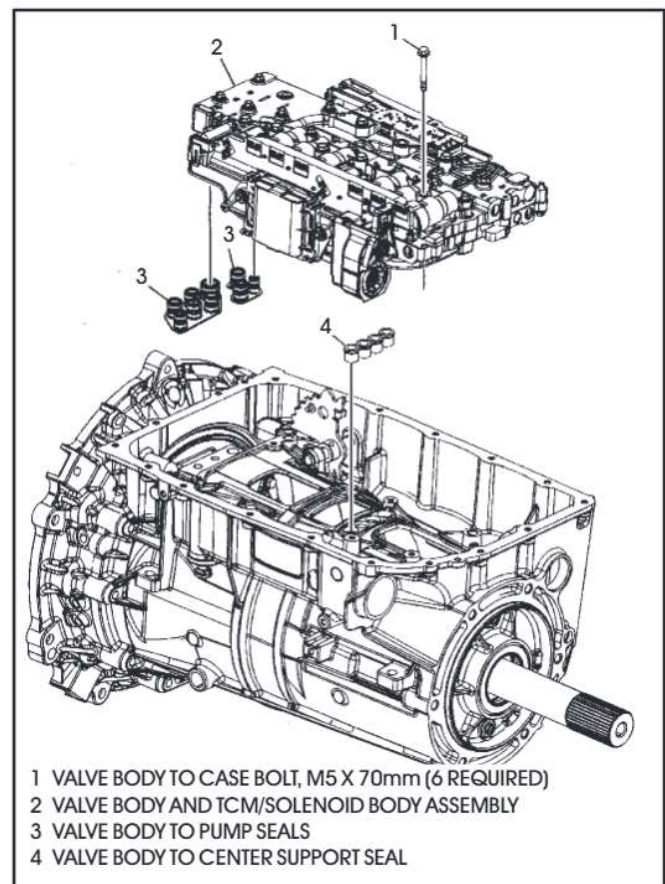

Figure 42
13. Remove the valve body assembly, as shown in Figure 42.
14. Remove and discard the valve body to pump seals and the valve body to center support seal, as shown in Figure 42.